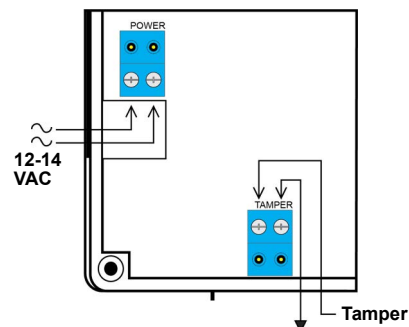

Figure 4 Power and tamper wiring
1. Connect power cabling (Figure 4).